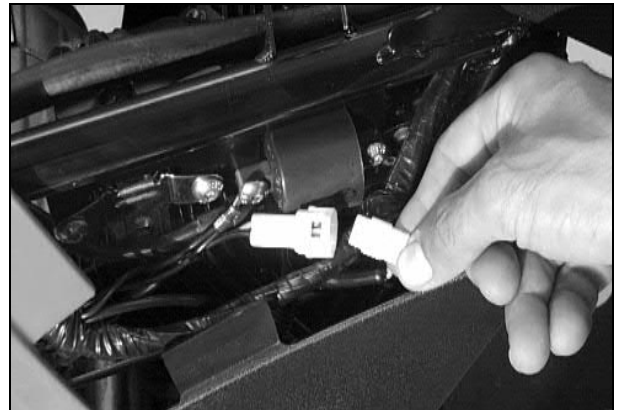

Fig. 21
23. Disconnect the oil light switch, (Fig. 21).